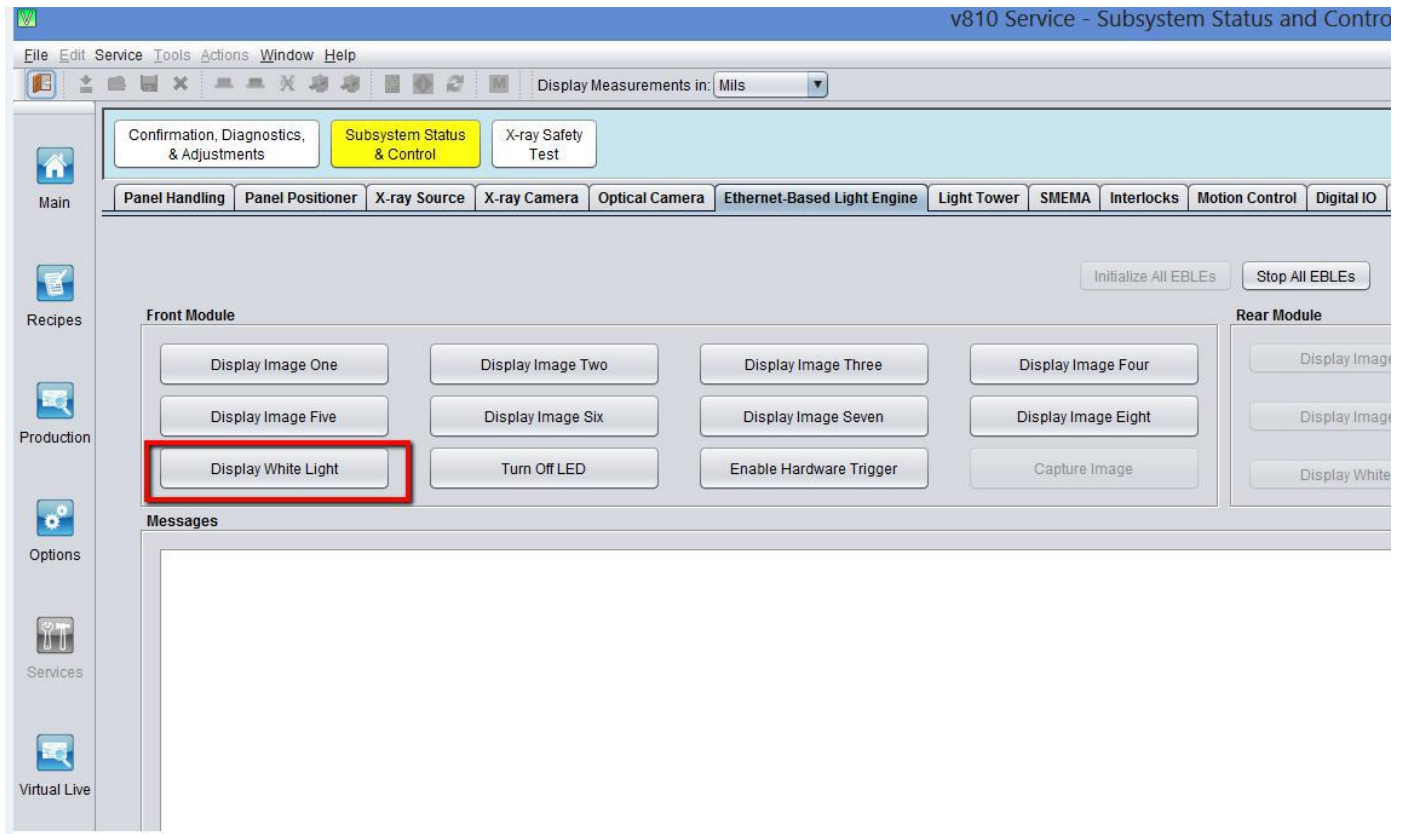

Figure 33 Front Module Column
31. At Front Module Column, please click “Display White Light” as below Figure 33.